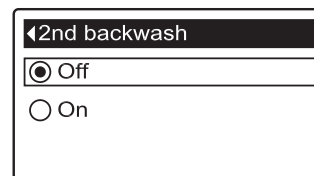

FIG. 64
- 8b. **Second backwash:** If the desired option already has a black dot next to it (See Figure 64), go to Step 9. Otherwise, press the DOWN (▼) or UP (▲) buttons to scroll to the other option, then press SELECT (O) to choose it. Setting this feature On adds a second backwash and rinse at the beginning of the recharge cycle. Default is Off. Set this feature On if your water supply contains a lot of sediment or iron.